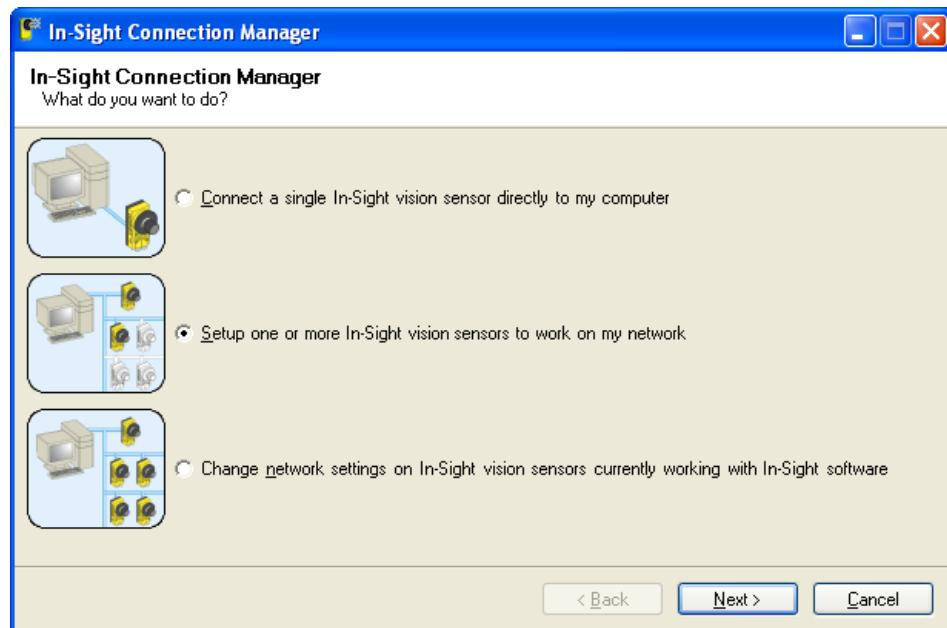

Figure 2-14: In-Sight Connection Manager
3. Select the second option, "Setup one or more In-Sight vision sensors to work on my network" (Figure 2-14). Click Next.